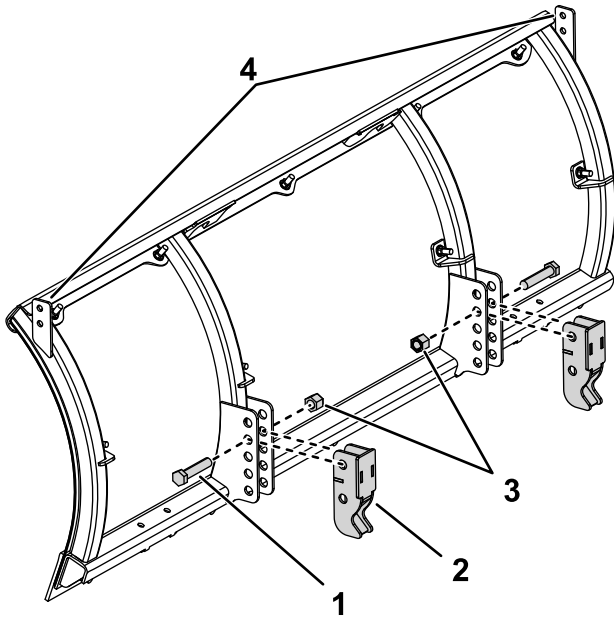

Figure 3
1. Center the 2 blade mounting brackets on the plow blade and loosely secure them using 2 hex-head bolts and 2 self-locking nuts as shown in Figure 3.